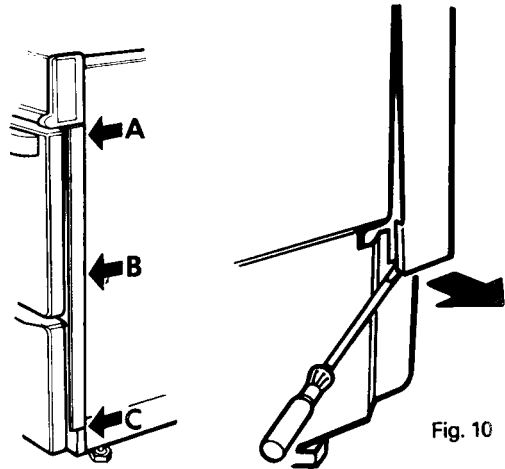

Fig. 10
3. With a fine screwdriver or penknife acting on the rear flange gently prise off the side trim at positions A, B and C (see Fig. 10).